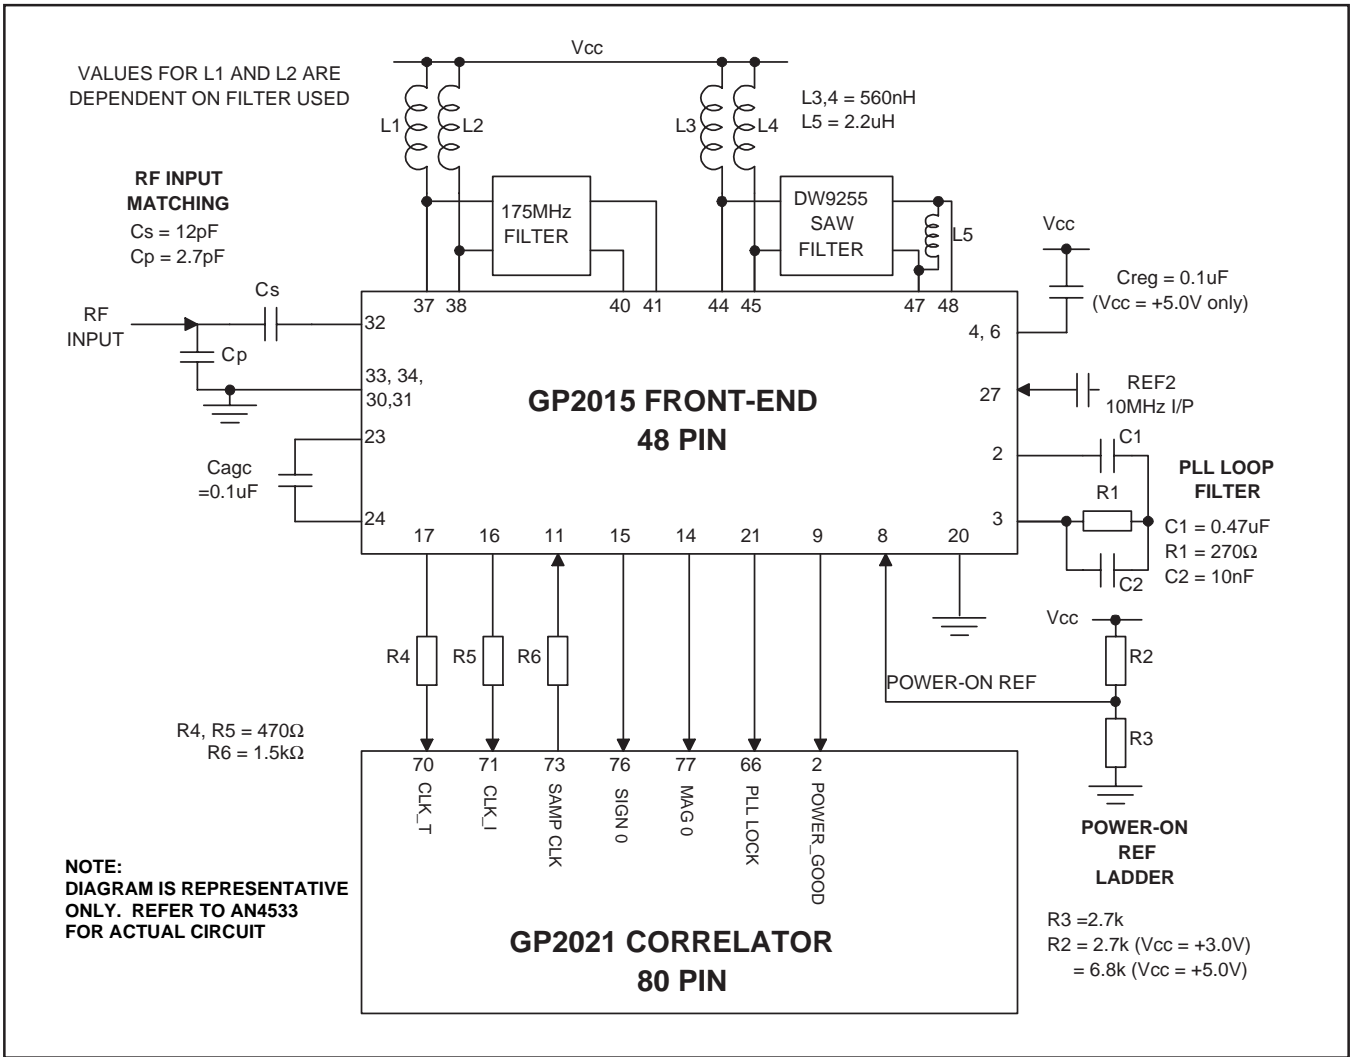

Fig. 4 GP2015 typical application
A typical application circuit is shown in figure 4 with the GP2015 front-end interfaced to the GP2021 12-channel correlator integrated circuit. The RF input has an unmatched input impedance (see page 4). The RF input matching components C_s and C_p should be mounted as close to the RF input as possible; also the Vee(RF) tracks must be kept as short as possible. A SAW filter may be used as a 175.42MHz filter, but this can be replaced by a simpler coupled-tuned LC filter if there is no critical out-of-band jamming immunity requirement. The DC bias to mixer 1 is provided via inductors L1 and L2, which may form part of the 175.42MHz filter. The output of mixer 2 requires an external dc bias, achieved with inductors L3 and L4, which also serve to tune out the input capacitance of the DW9255 SAW filter. The output of the SAW filter is tuned with inductor L5. Capacitor (C_{agc}) determines the AGC time-constant. The PLL loop filter components are selected to give a PLL loop bandwidth of approximately 10kHz. The IF Output is normally used for test-purposes only, but is available to the user if required. Typically a low noise preamplifier (gain $>+15dB$) is used between the